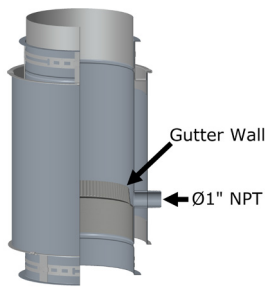

Figure 72 - Drain Length (DL).
A Drain Length (DL) is used to drain water on vertical runs. It is an 18" pipe length with provision to drain rain or condensate from the chimney. The pipe flue is equipped with an annular catch gutter wall and a 1" (25) NPT nipple extending through the casing for attachment of drain piping. See Figure 72. The drain piping should include a water leg of a height at least equal to the maximum expected operating pressure at the appliance outlet to avoid allowing flue gases to vent through the drain. Drain Length should be installed indoors to prevent freezing.